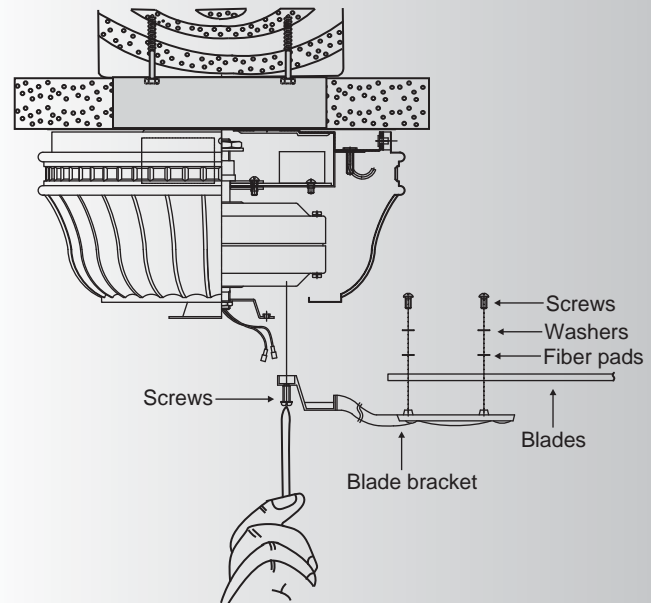

Fig. 12
Step 2. Attach each blade assembly to the motor using the "Pre-installed" mounting screws in the blade bracket. (Fig 12)